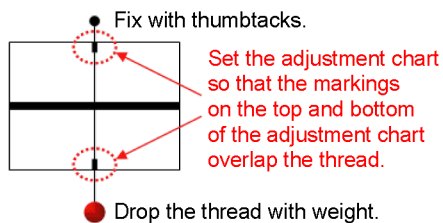

Fig.3-15
- Fix the leveller adjustment chart to the wall or panel using thumbtacks and drop a thread with weight. (Fig.3-15)